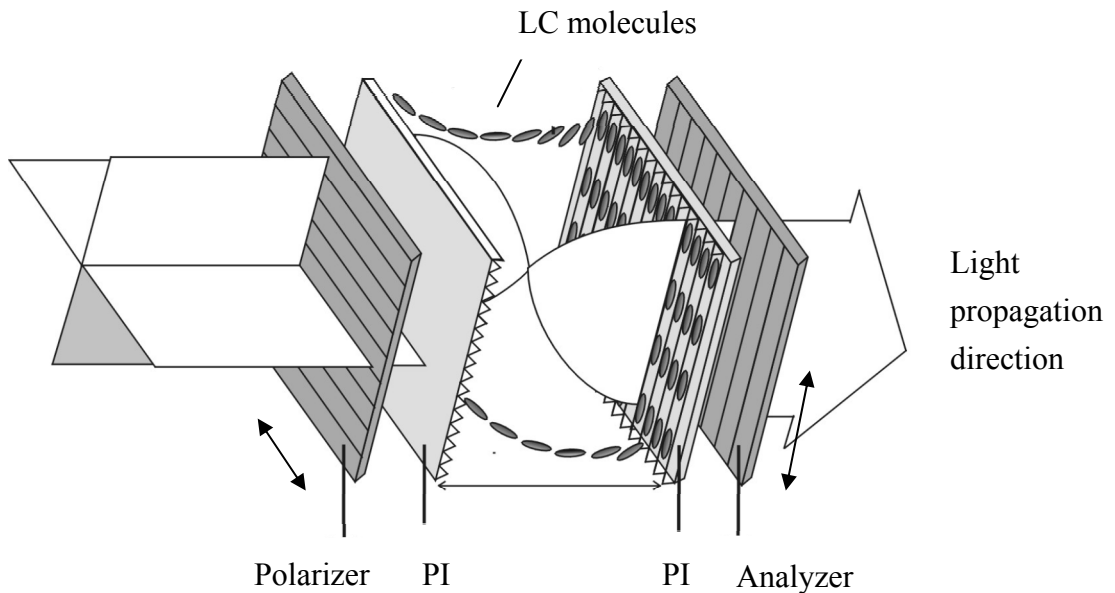

Fig. 2 90° TN LC cell
In the 90° twisted nematic (TN) cell shown in Fig. 2, the LC director of the back surface is twisted 90° with respect to the front surface. The front local director is set parallel to the transmission axis of the polarizer. An incident unpolarized light is converted into a linearly polarized light by the front polarizer.